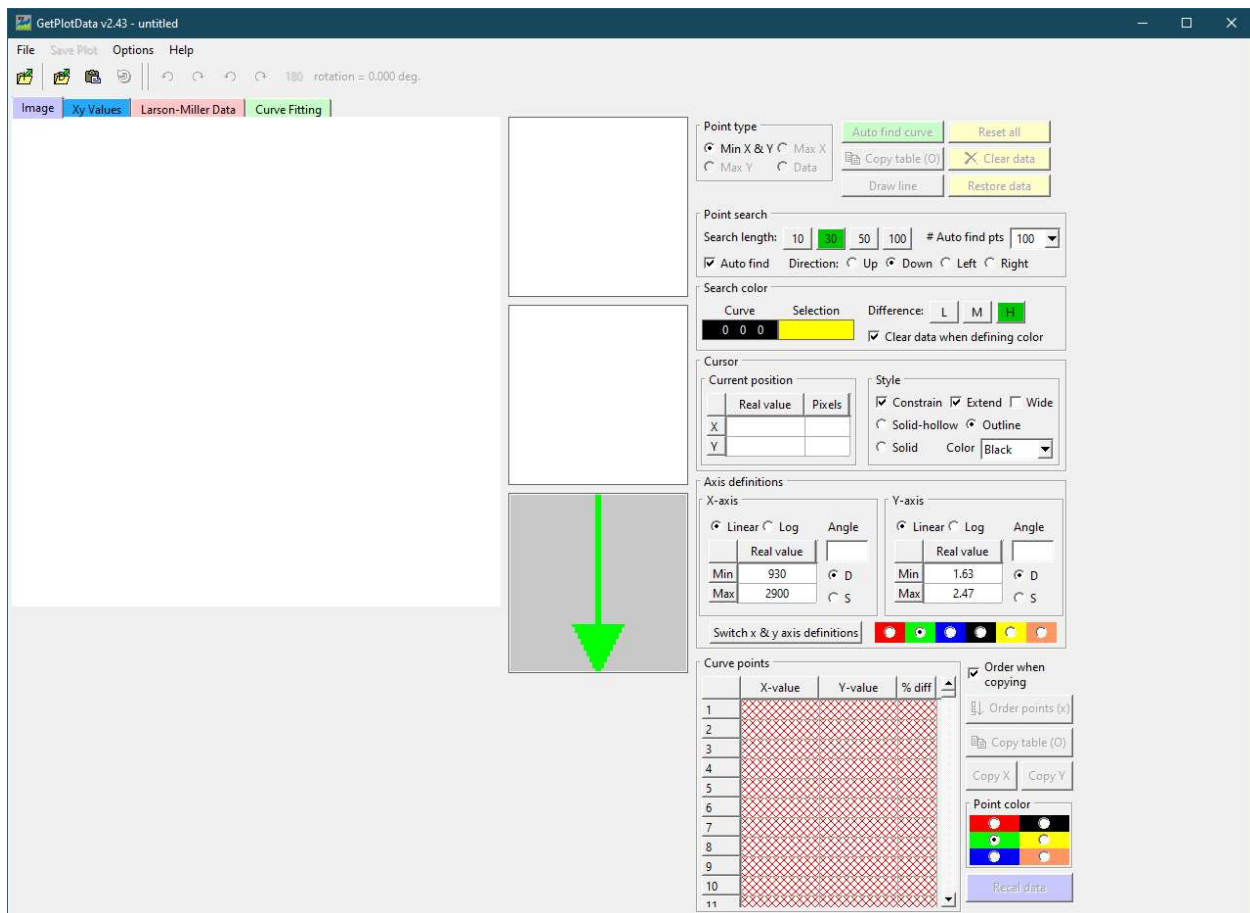

Figure 1. Startup screen.
Step 1: Start the program. (Figure 1.)